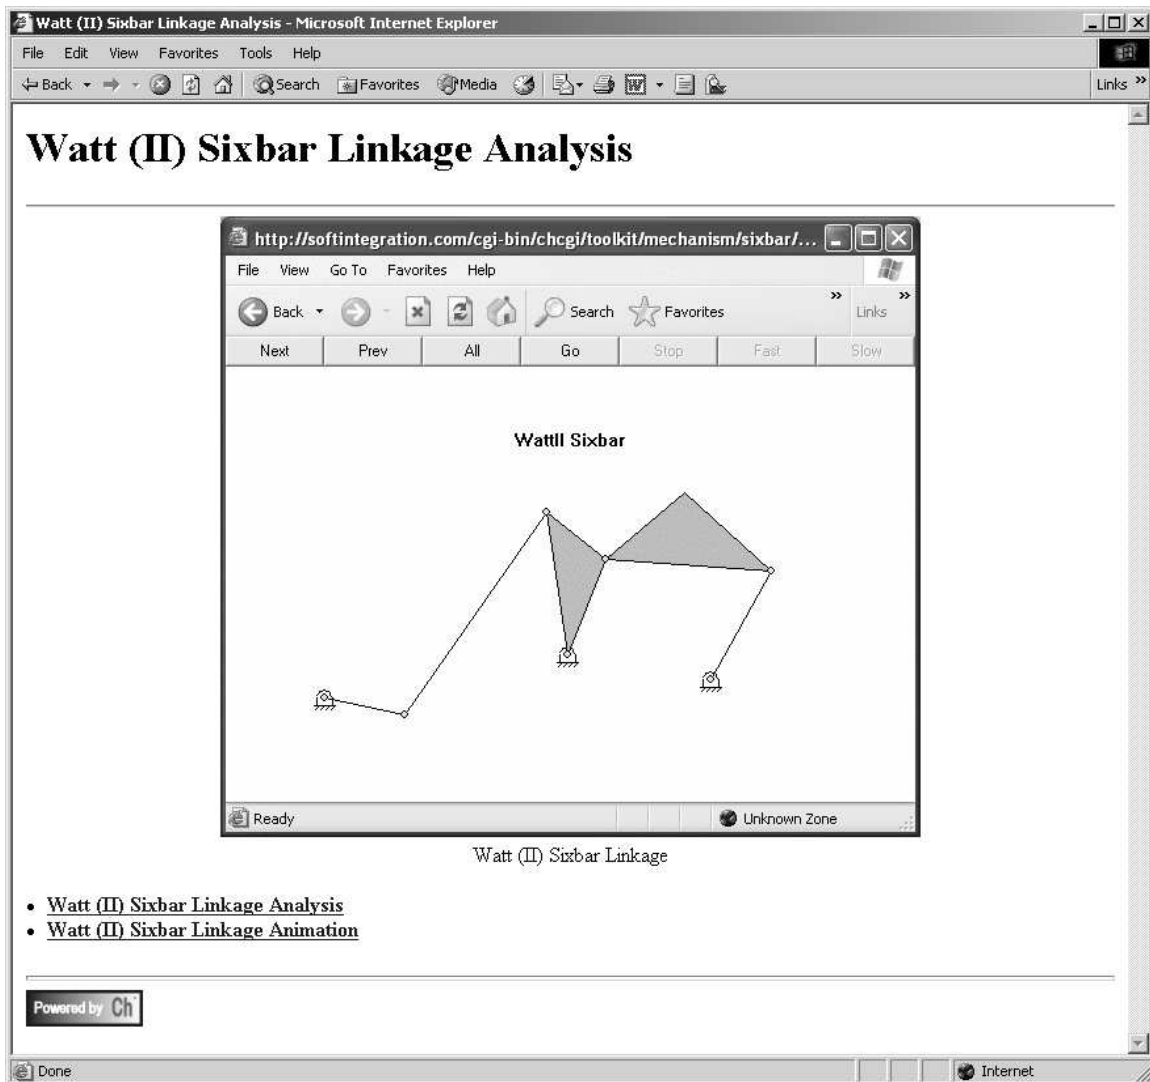

Figure 5.16: Main web page for the Watt (II) sixbar.
Figure 5.16 shows the main web page for web-based analysis of the Watt (II) sixbar mechanism. The web pages for analyzing and animating the Watt (II) sixbar are shown in Figures 5.17 and 5.18, respectively. Based on the Watt (II) sixbar defined in the problem statement of Problem 2, the result of executing the analysis of Figure 5.17 is shown in Figure 5.19. The output of the Watt (II) linkage analysis web page contains values for the angular positions, velocities, and accelerations of all the links as well as values for the coupler point position, velocity, and acceleration. Note that the coupler link is assumed to be link 7, which corresponds to the Watt (II) sixbar figure shown on the web page.